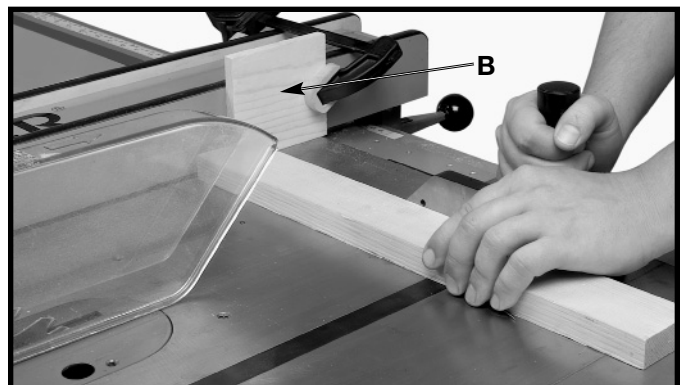

Fig. 49A
When cross-cutting a number of pieces to the same length, a block of wood (B) Fig. 49A can be clamped to the fence and used as a cut-off gage. It is important that this block of wood always be positioned in front of the saw blade as shown. Once the cut-off length is determined, secure the fence and use the miter gage to feed the work into the cut. This block of wood allows the cut-off piece to move freely along the table surface without binding between the fence and the saw blade, thereby lessening the possibility of kickback and injury to the operator.
⚠ CAUTION WHEN USING THE BLOCK (B) FIG. 49A, AS A CUT-OFF GAGE, IT IS VERY IMPORTANT THAT THE REAR END OF THE BLOCK BE POSITIONED SO THE WORK PIECE IS CLEAR OF THE BLOCK BEFORE IT CONTACTS THE BLADE.